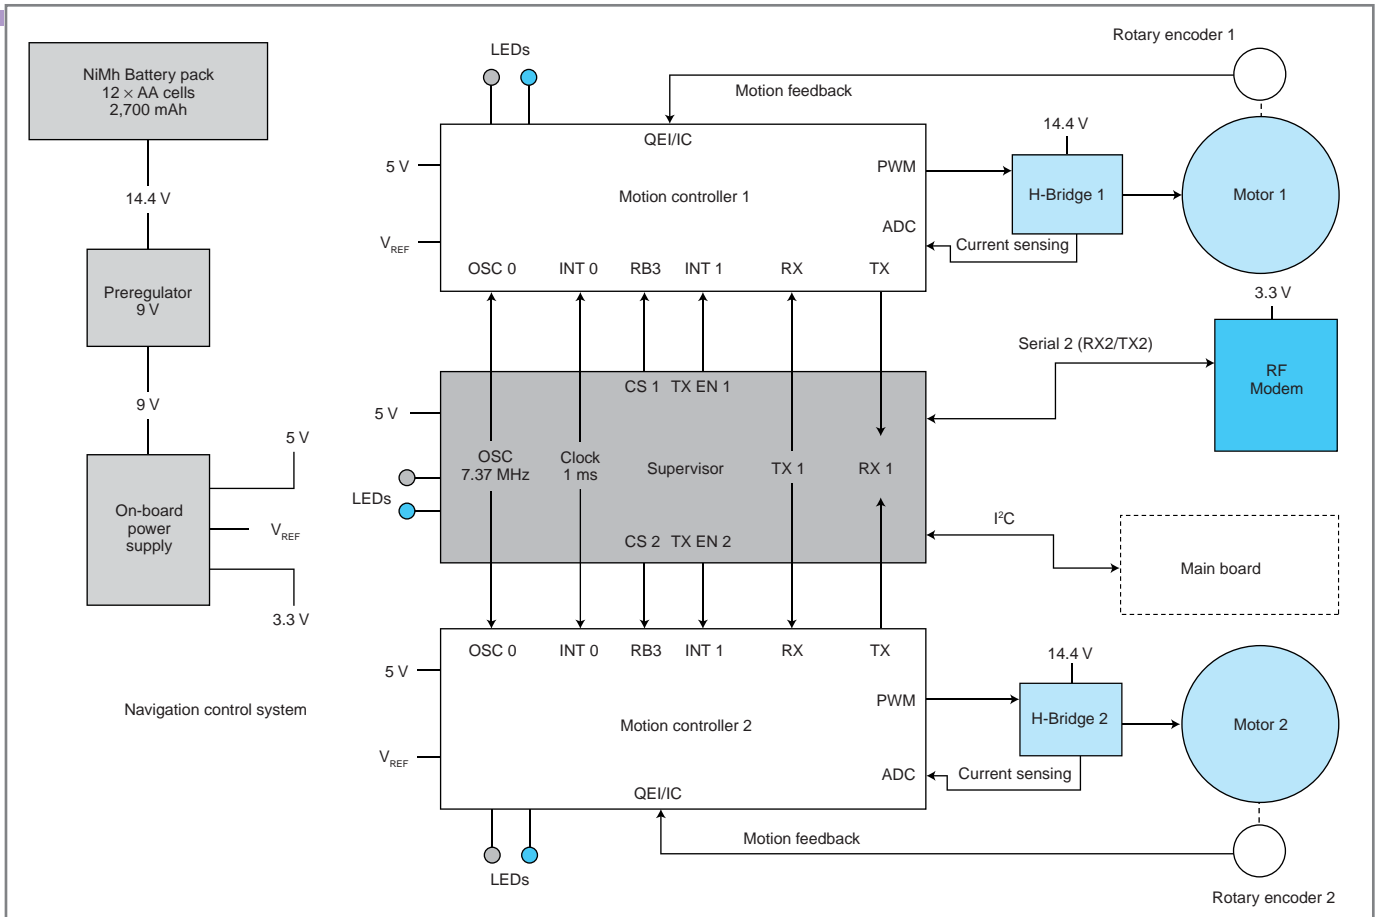

Figure 1—This is the navigation control subsystem.
**Photo 1**—This is the entire navigation control subsystem (as described in Figure 1). It is installed on the Rino robotic platform.
The navigation control subsystem is shown in Figure 1. A detailed schematic diagram and pictures of every board, as well as the complete project done with Cadsoft's Eagle, are available on the *Circuit Cellar* FTP site.
The logical block diagram is similar to Figure 1 for the previous board, but the hardware and software are